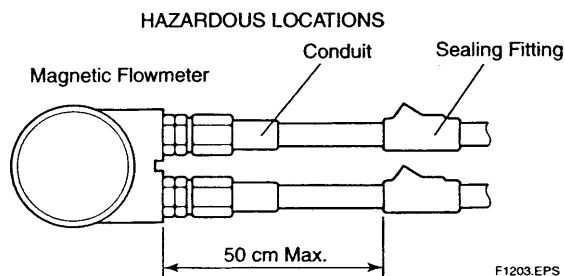

Figure 12.3.1 Conduit Wiring
(2) Installation**For CSA C22.2 Series****! WARNING**
- In hazardous location, wiring shall be in conduit as shown in Figure 12.3.1.